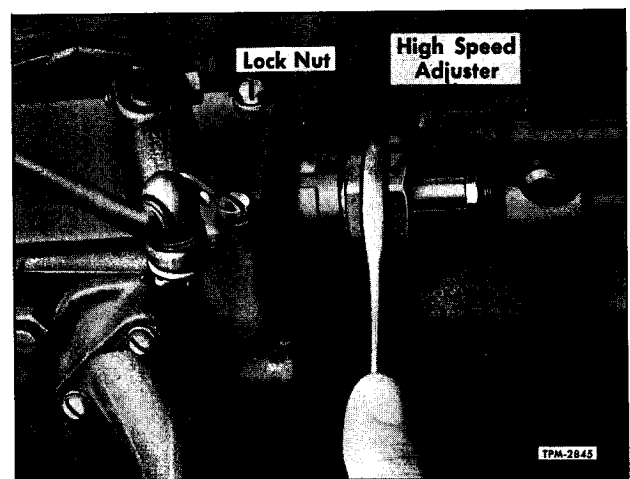

Figure 59—Adjusting No-Load High Speed
4. Turn high speed spring retainer IN to increase or OUT to decrease speed (fig. 59) until desired no-load setting is obtained.